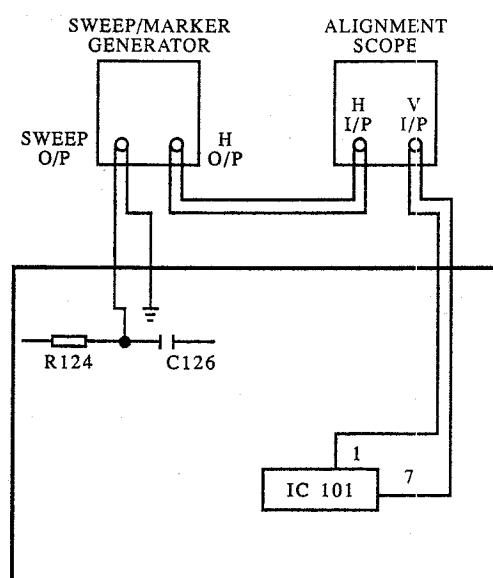

FIG 6 MAIN CHASSIS
1. Connect SIF sweep/marker generator to junction of R124 and C126 as shown in figure 6.